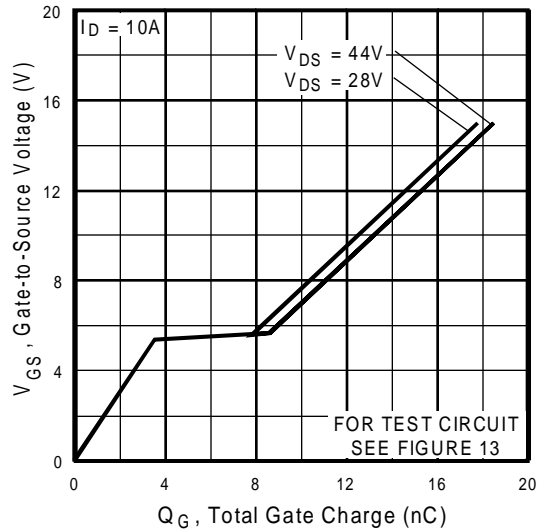

Fig 6. Typical Gate Charge Vs. Gate-to-Source Voltage
| Q_{gd} | Gate-to-Drain ("Miller") Charge | — | — | 7.6 | | $V_{GS} = 10V$, See Fig. 6 and 13 ④⑥ |